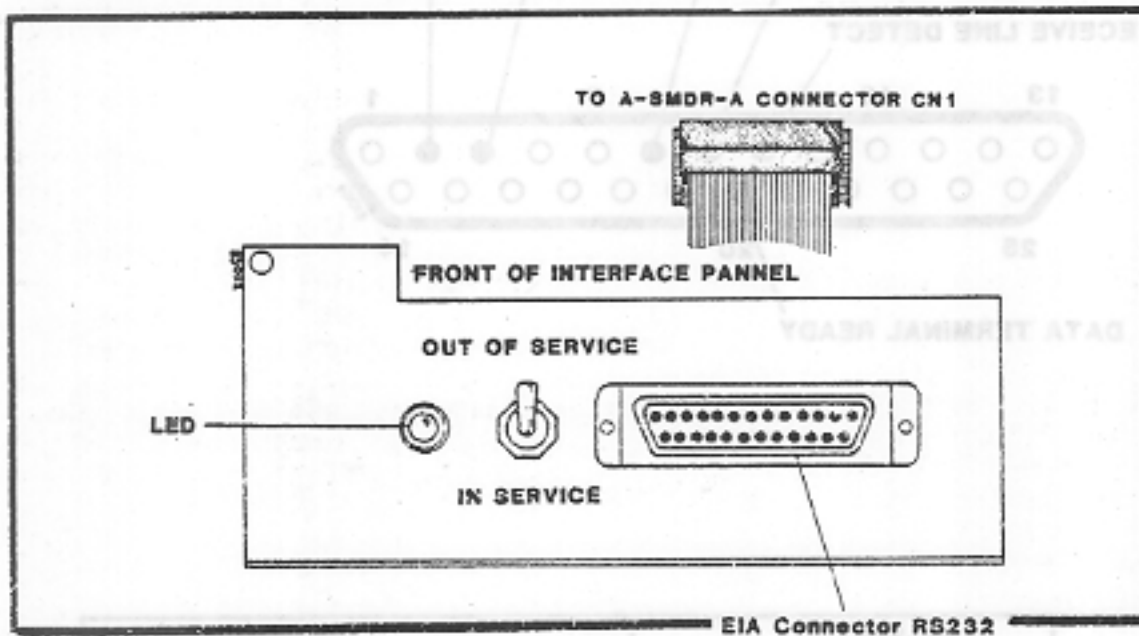

Figure 1-2 A-SMDR-A Panel.
3.03 The interface cable and jack assembly for the A-SMDR-A consists of a flat cable and a panel (refer to figure 1-2). The cable is terminated on one end with a connector which plugs into the A-SMDR-A (refer to figure 1-3). The other end terminates into a standard EIA RS232 connector mounted on the panel used to connect the printer/recorder device.